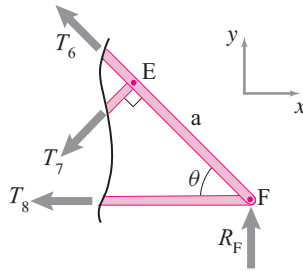

Figure 6.39: Free-body diagram with a sectional cut that cuts through rods CE, DE and DF.
Solution We do not need any analysis to find the tension in rod DE. Since DE is normal to CF, DE has to be a zero-force member for equilibrium of joint E. ② However, let us find out the same result using the method of sections. Let us take a section just to the left of joint E that cuts through rods CE, DE and DF. The free-body diagram of the truss to the right of the section is shown in fig. 6.39.